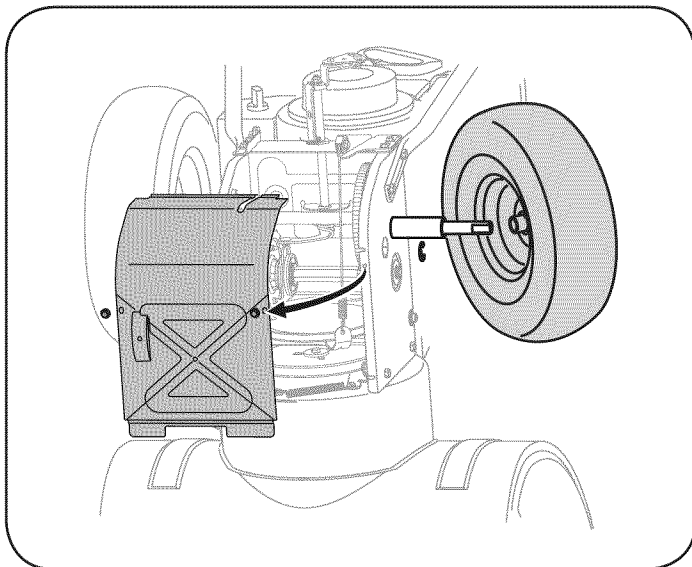

Figure 27
- Remove the right-hand wheel by removing the screw and bell washer which secure it to the axle. See Figure 27.